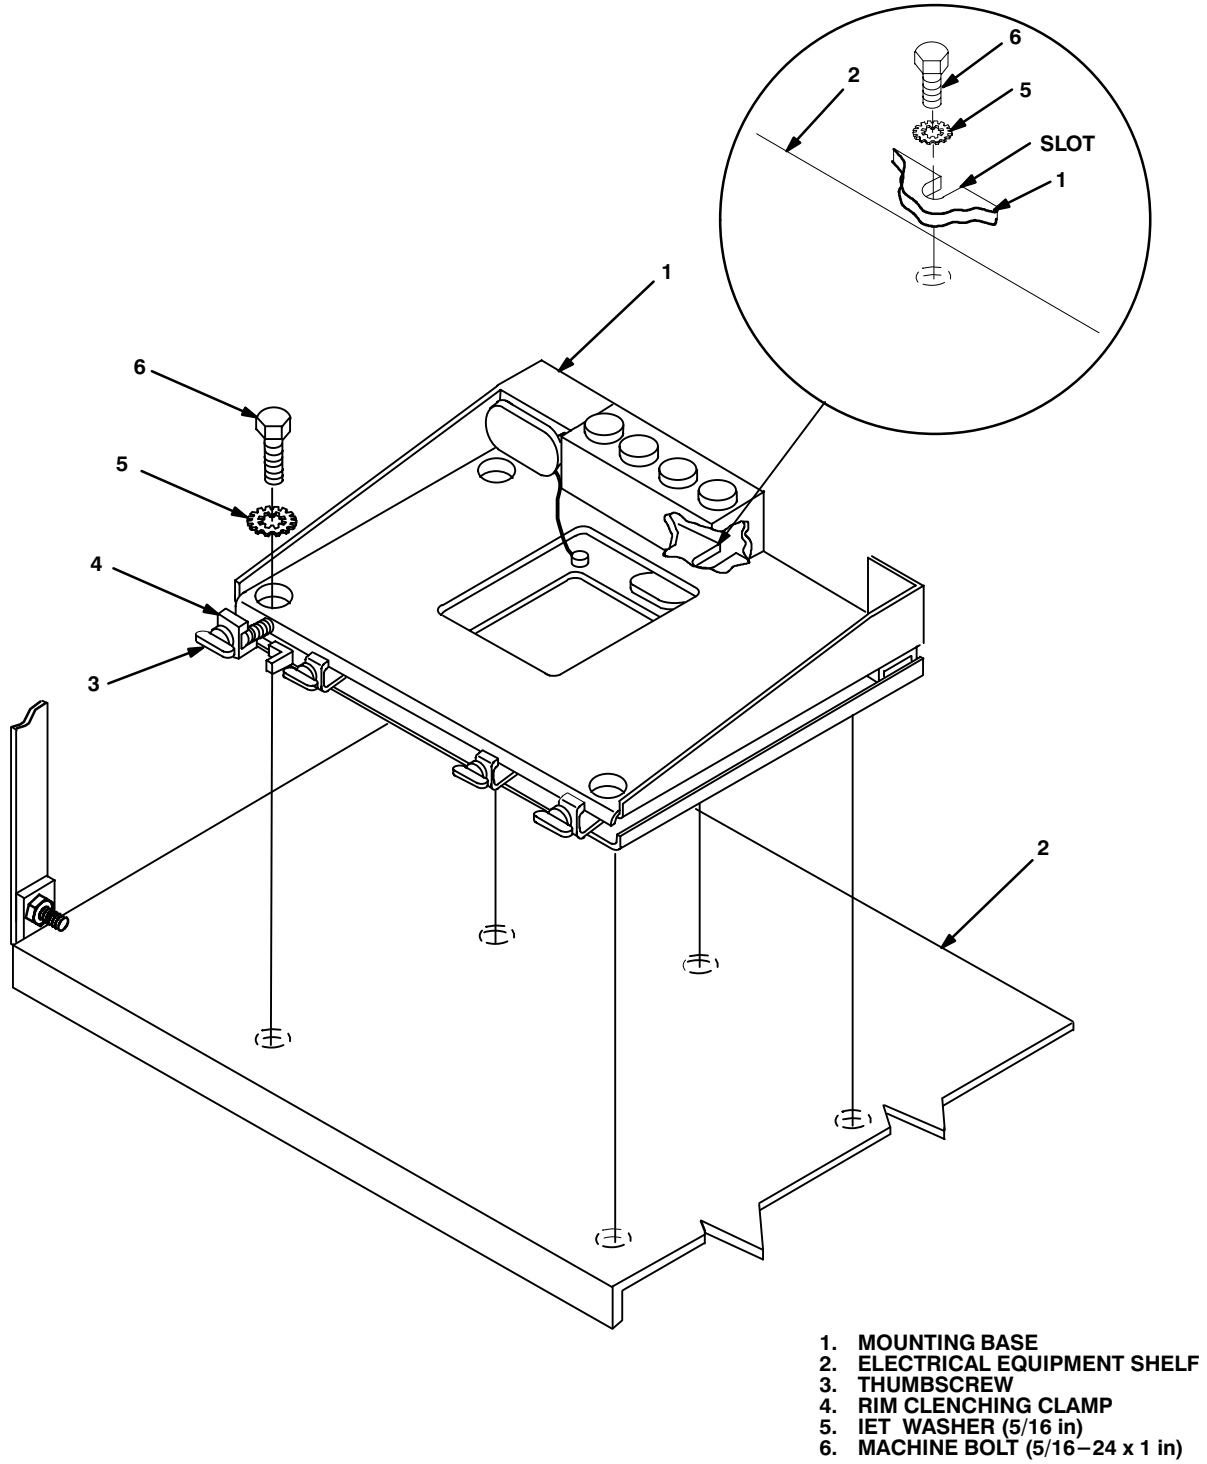

Figure 5-6. Mounting Base Installation: Roadside
**5.3 Installation of Mounting Base, Electrical Equipment MT-6352/VRC (mounting base).** Remove and retain attaching bag of 5/16 in mounting hardware for installation. To insure good electrical grounding, any rust, corrosion or paint around mounting holes in electrical equipment shelf should be removed before installing the mounting base. See figure 5-6 and perform the following steps.